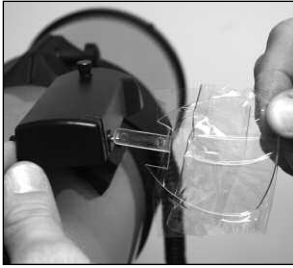

Fig. 9: Attach Smartfinder lens; slide "tongue" into slot.
(1) Battery compartment
(2) Battery holder
(3) 9v connector
- b). Insert the tongue into the SmartFinder slot. Angle the tongue towards the front of the LNT module as you slide it into place. See **Fig. 9**.